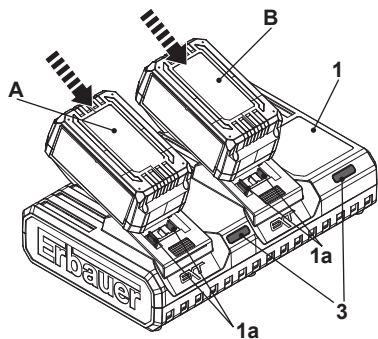
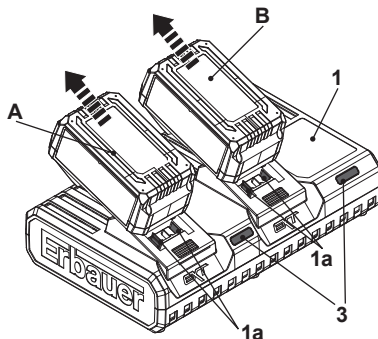

Fig. 2
Fig. 3
1. Align and slide the battery pack(s) (A and/or B) onto the sliding slots (1a) of the charger (1) all the way to the stop. Make sure that the electrical contacts of the charger (1) are fully inserted into the battery pack(s) (A and/or B) (Fig. 2).
3. The charging status indicator (3) flashed in green, and the ventilation fan of charger (1) was running steady with sound.
4. The charging status indicator (3) keeps green after charging is done (this normally takes 1 hour, see below “Charging status indicator” section for charging status), disconnect the charger (1) from the power supply.
5. Remove the battery pack(s) (A and/or B) from the charger (1) (Fig. 3).